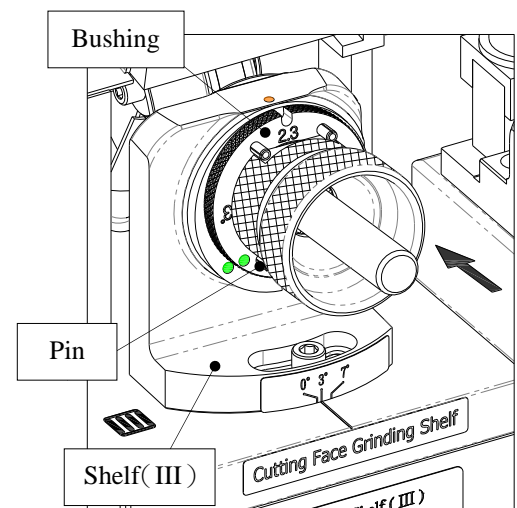

Fig. 15-2
2. 2 Flute Cutting Face Grinding (III) (Fig. 15-2)
- ① Insert the Chuck set into the bushing on Shelf (III), align Slot No.1 of the Chuck set with the two pins where marked as No.1, gently push the Chuck set into the shelf until the grinding noise stops, then take out the Chuck set.
- ② Take out the bushing; turn it by 180° to No.(2 · 3), align No.(2 · 3) of the bushing with the Pin on the shelf, then insert the bushing into the shelf.
- ③ Insert the Chuck set into the bushing on Shelf (III), align Slot No.2 of the Chuck set with the two pins where marked as No.(2 · 3), gently push the Chuck set into the shelf until the grinding noise stops, then take out the Chuck set.